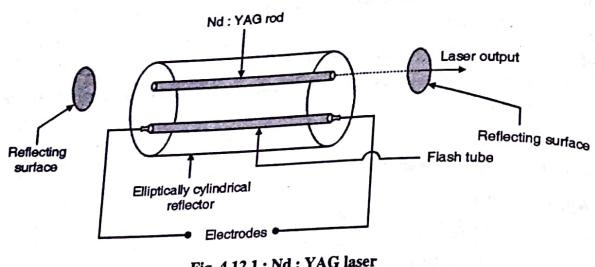

Fig. 4.12.1 : Nd : YAG laser
- As shown in Fig. 4.12.1, an elliptically cylinder reflector with both of its axis occupied by a flash lamp and Nd : YAG rod respectively. The light leaving one focus of the ellipse will certainly pass through the other focus after reflection from reflecting surface. Hence entire light generated by flash tube is focussed on the Nd : YAG rod.
- Optical resonator is formed by highly silvered reflecting surfaces as shown in Fig. 4.12.1.